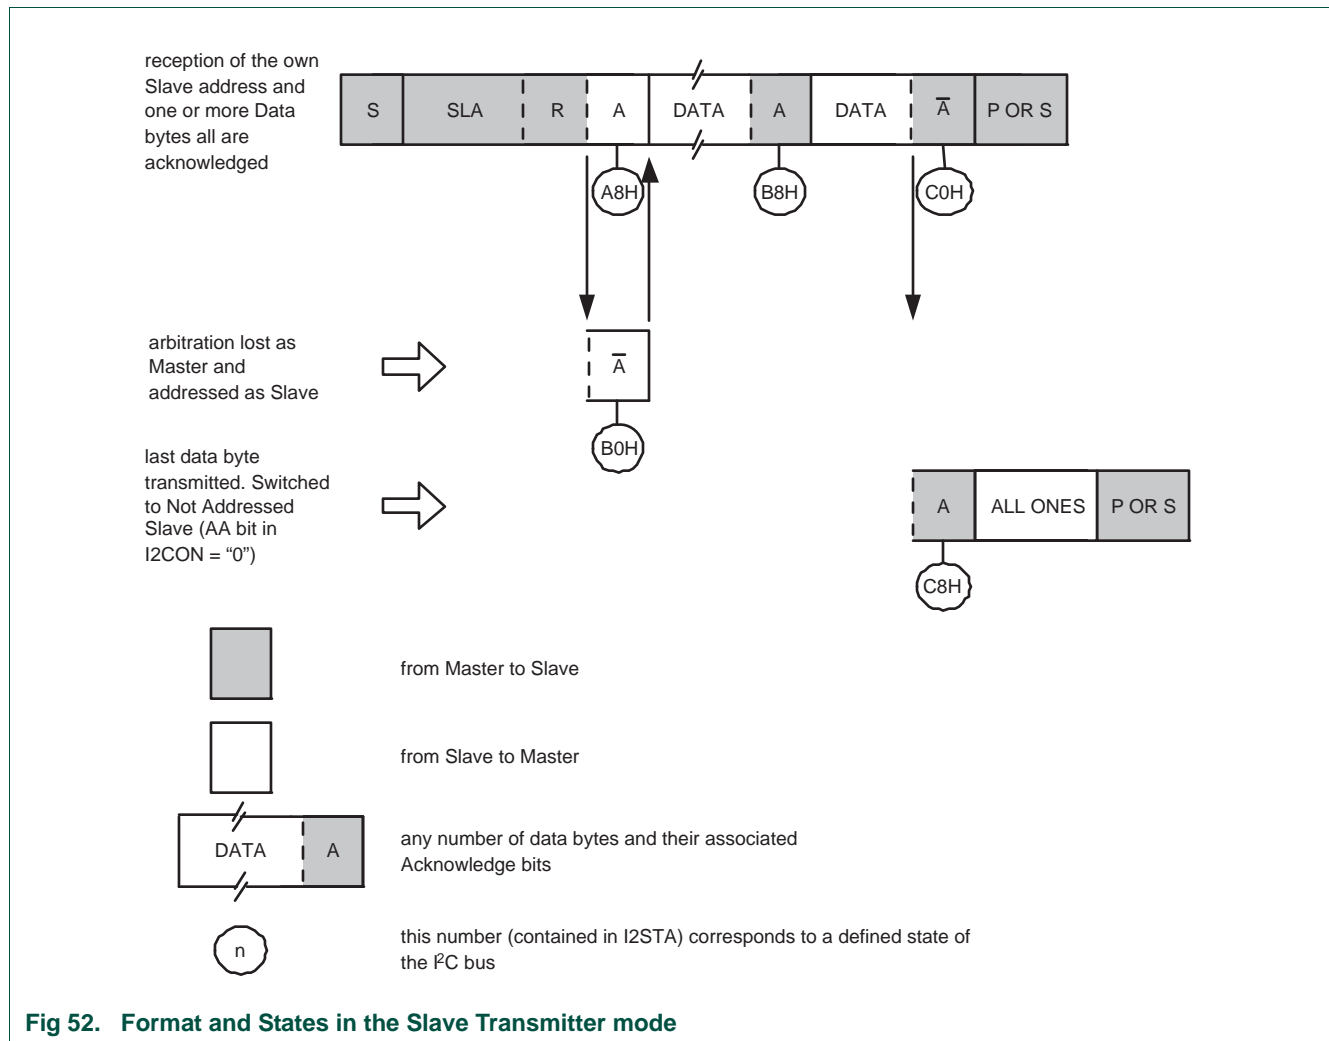

Fig 52. Format and States in the Slave Transmitter mode
In the slave transmitter mode, a number of data bytes are transmitted to a master receiver (see Figure 52). Data transfer is initialized as in the slave receiver mode. When I2ADR and I2CON have been initialized, the I2C block waits until it is addressed by its own slave address followed by the data direction bit which must be "1" (R) for the I2C block to operate in the slave transmitter mode. After its own slave address and the R bit have been received, the serial interrupt flag (SI) is set and a valid status code can be read from I2STAT. This status code is used to vector to a state service routine, and the appropriate action to be taken for each of these status codes is detailed in Table 235. The slave transmitter mode may also be entered if arbitration is lost while the I2C block is in the master mode (see state 0xB0).